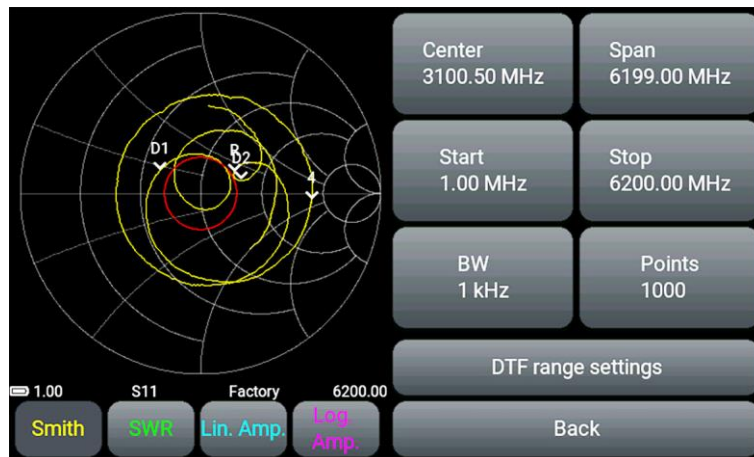

Figure 9.2 - Menu for setting scan parameters
9.2.1. Enter the **Scan** section of the main menu of the device. Menu for setting the parameters of the frequency range **Scan** is shown in Figure 9.2